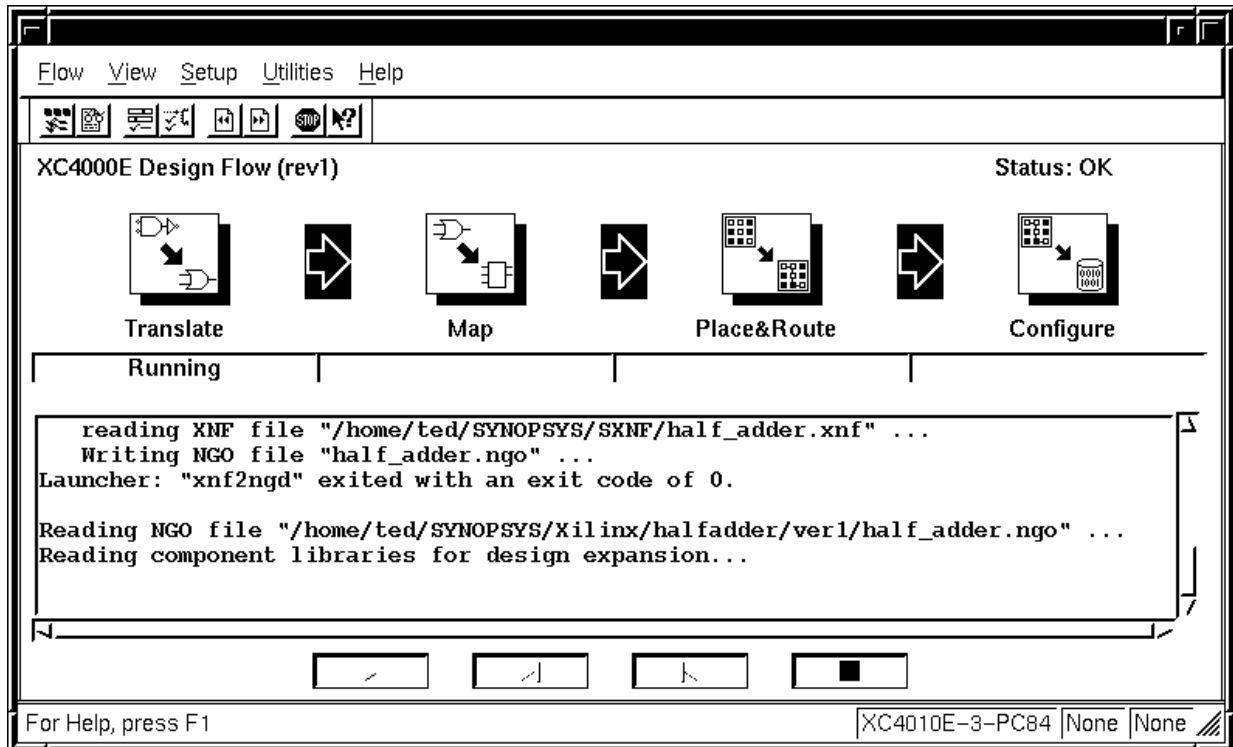

Figure 30: Flow Engine in progress.
(6) Once you have set the options, select Run from the Implement form. The Flow Engine window will appear (see Figure 30) and show the progress of the four steps involved in the implementation: **Translate, Map, Place and Route, Configure**. Certain stages may take long to complete. At the end of implementation, the Flow Engine will report that the design was successfully implemented. There should be a file called `half_adder.bit` in the Xilinx directory at this point. The next step is to download the configuration file to the demo board and verify the working hardware.
(7) Save the `half_adder` project by selecting File -> Save Project from the Design Manager window.